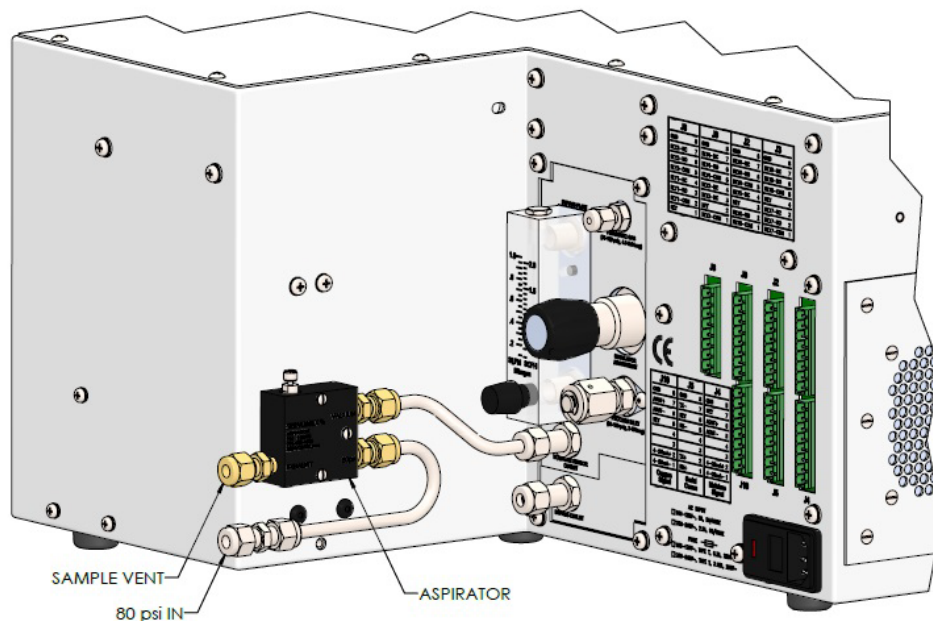

Figure 11: Aspirator Installation
6. If the analyzer is configured with an aspirator, connect the 80psi gas feed line to it. The aspirator requires 15 LPM at 80 PSI for optimum operation. Refer to **Figure 11**.